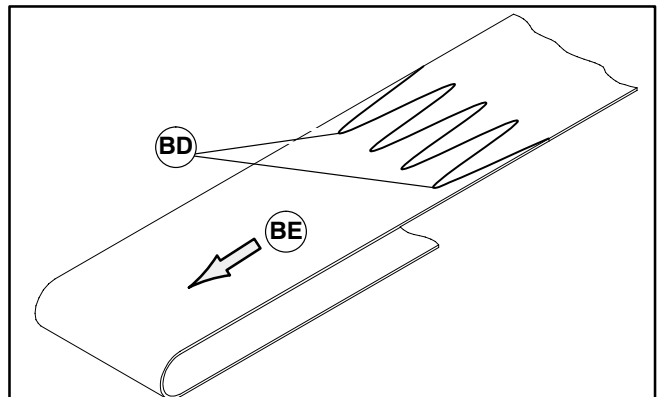
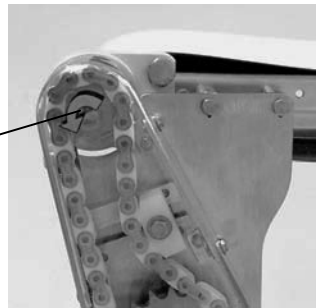

Figure 29
Figure 32
1. Orient conveyor belt so the splice leading fingers (BD of Figure 29) point in the direction of belt travel (BE).
IMPORTANT: On a flat belt conveyor, the wiper is installed on discharge end. Belt travel direction is identified by an arrow decal on the drive cover (BC of Figure 32).
- Orient conveyor belt so that the splice leading fingers (BD of Figure 29) point in the direction of belt travel (BE) as identified by the label (BC of Figure 32).